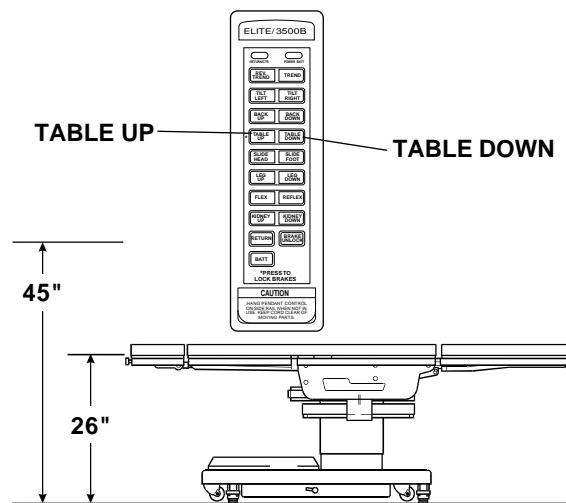

Figure 3-10. Elevation Function
**e. Elevation.** To raise table top, press the TABLE-UP button (figure 3-10.). The table will lift a patient weight of 500 pounds up to a maximum height of 45". To lower the table top, press the TABLE-DOWN button. The table top will go down to a minimum height of 26" (minus pad).